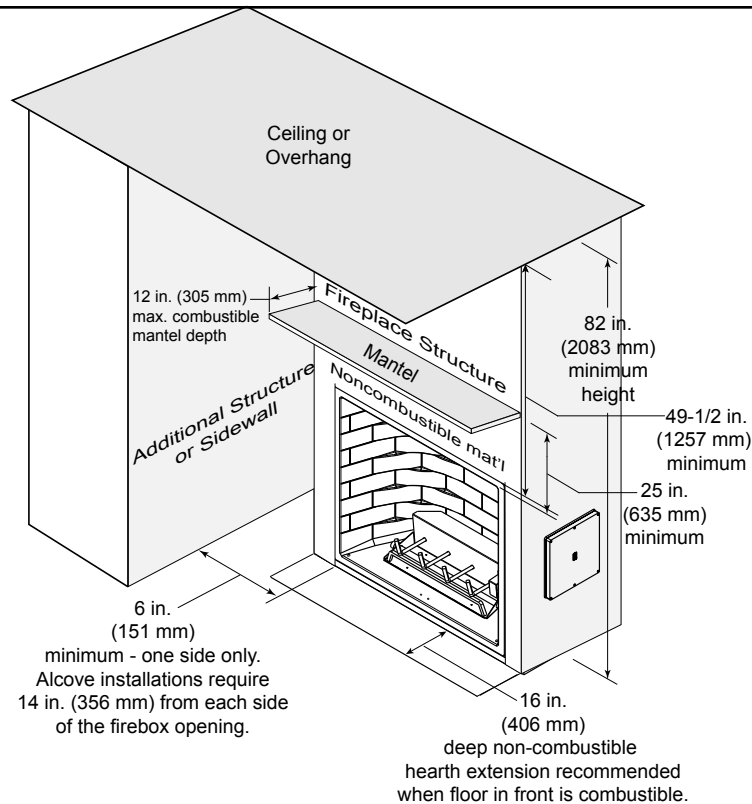

Figure 3.5 Clearances to Combustibles
- When installed on wood, a 16" noncombustible hearth extension in front of the appliance is recommended. See Figure 3.5.